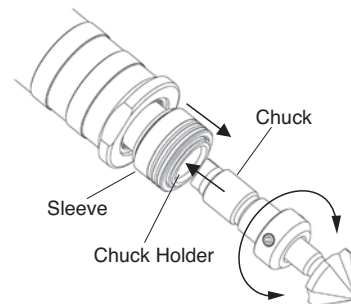

Fig.6
- (1) Insert the chuck into the chuck holder of the tool.
- (2) The chuck can be inserted all the way into the holder by turning and pushing it in with the sleeve kept down. (Fig.6)
- (3) The chuck will not be locked as long as the sleeve is kept down.